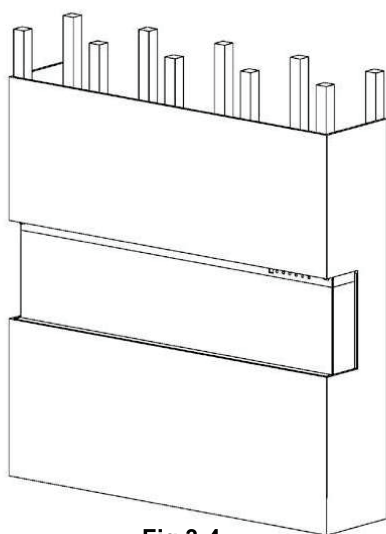

Fig.3-4
7. Cover the glass panel with a protective plastic bag and install plywood or gypsum board decorative surface. Fig.3-4